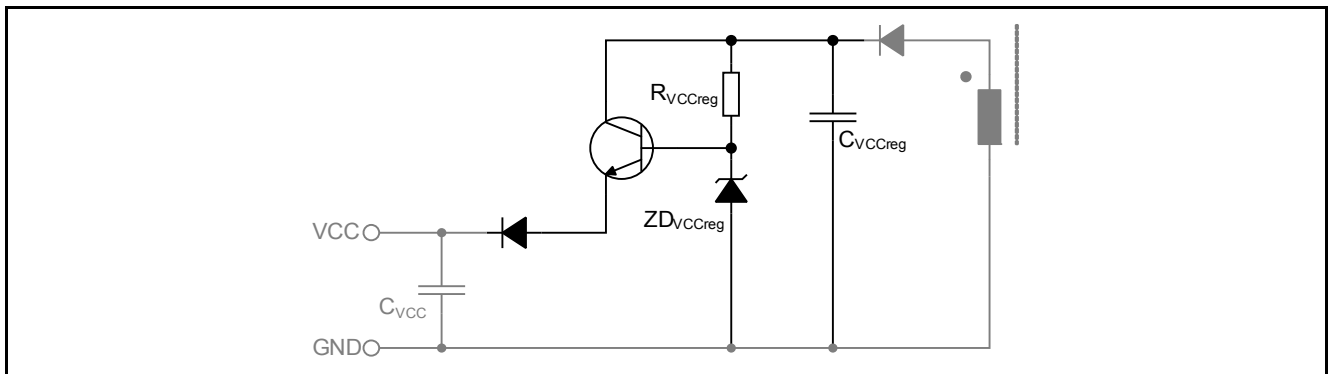

**Figure 10 Optional circuit for isolated dimming with CDM10V**
**Figure 10** shows an exemplary schematic of a 0-10V dimming interface for low BOM cost, using CDM10V by Infineon. CDM10V is a fully integrated 0-10V dimming interface IC which transmits secondary side analog voltage based signals from 0-10V dimmer to primary side, by driving an external opto-coupler with a 5mA current based PWM signal. The secondary auxiliary winding is necessary to supply the operating voltage of CDM10V. For more details about CDM10V, please visit Infineon website: <http://www.infineon.com/cdm10v>